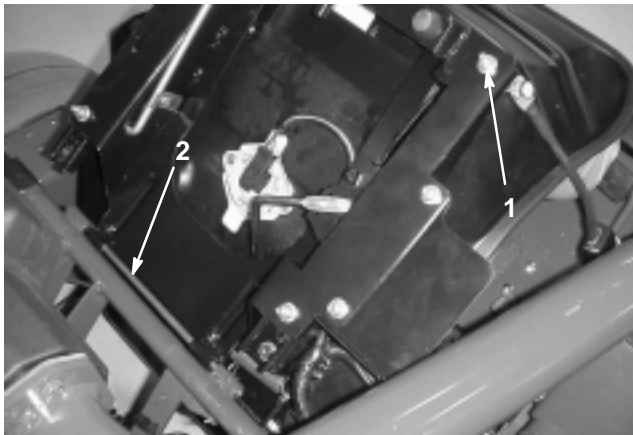

Figure 4
1. Remove the locknut (Fig. 4) and seat bracket (used for shipping) attached to the right rear seat adjuster screw and discard them. Bracket not shown.
2. Remove the cotter pin and seat pivot rod securing the seat (shipping position). Remove the seat (Fig. 4).